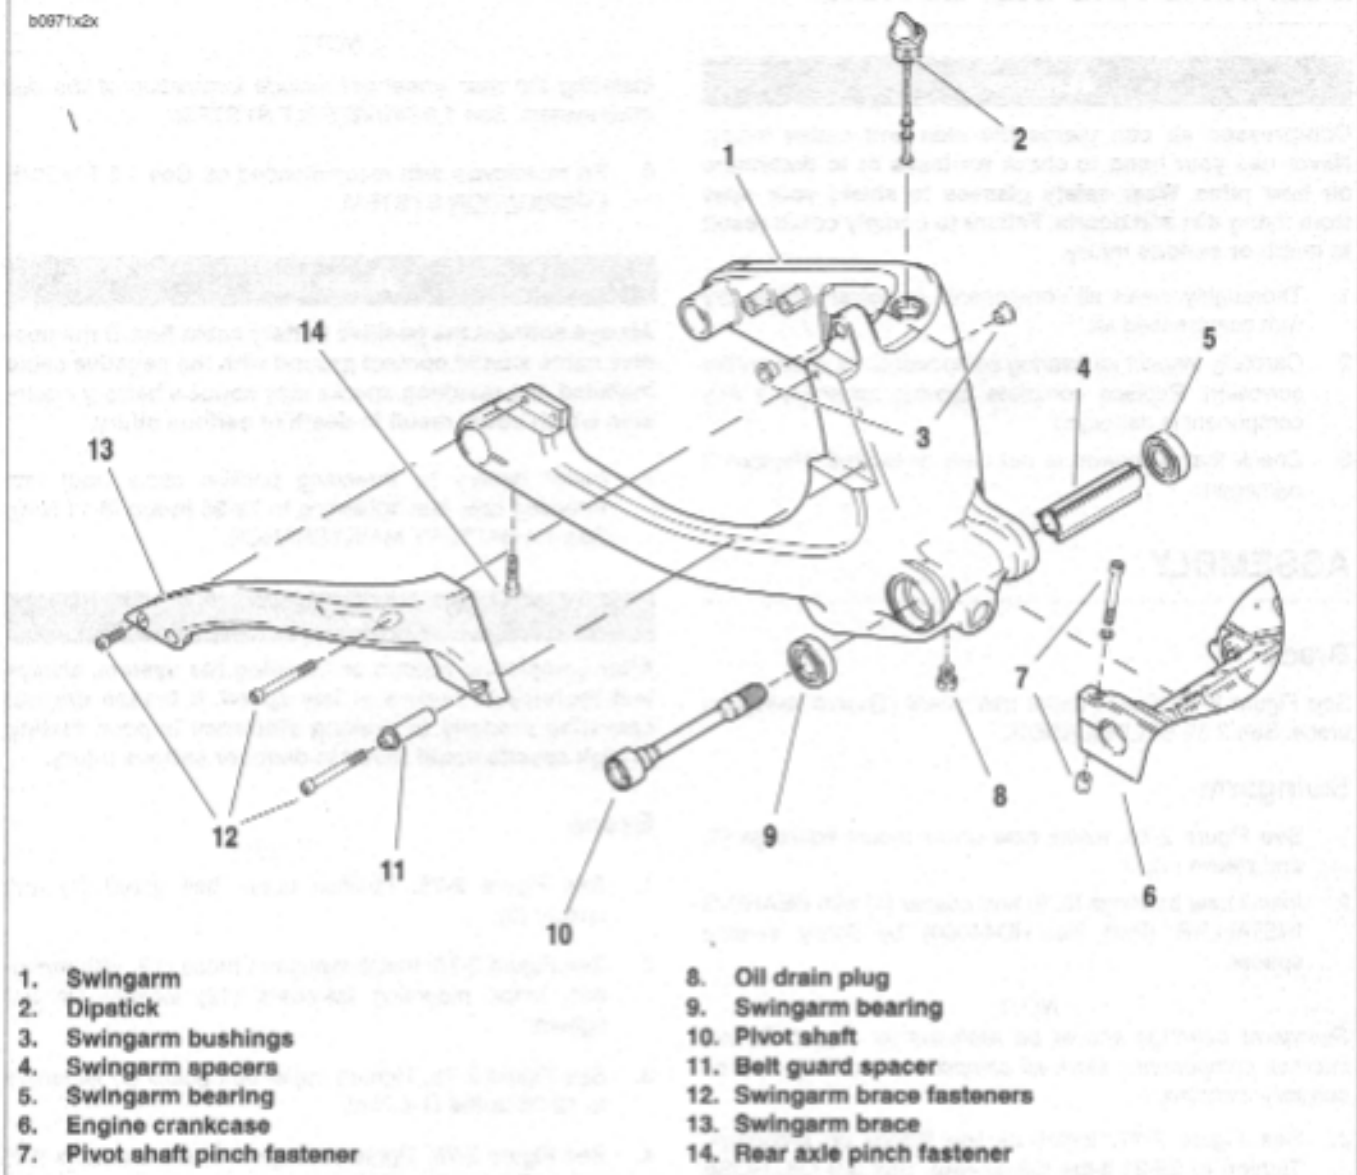

Figure 2-78. Swingarm Assembly
6. See Figure 2-78. Remove swingarm brace mounting fasteners (12) and swingarm brace (13).
2. See Figure 2-78. Remove oil drain plug (9) and drain oil from swingarm. See Draining Oil in 1.5 ENGINE LUBRICATION SYSTEM.
7. See Figure 2-78. Loosen pivot shaft pinch fastener (7).
8. Remove pivot shaft (10) with a special 7/8 in. hex tool located in tool kit.
2. See Figure 2-78. Remove swingarm bearings (5, 9) using slide hammer (SNAP-ON Part No. CJ1275 or equivalent) and 3/4 in. bearing remover and spacer.
3. Remove shock mount bushings (3) and sleeve.
See Figure 2-78. Remove swingarm bearings (5, 9) only if replacement is required. The complete bearing assembly must be replaced as a unit when replacement is necessary.
1. See Figure 2-78. Install **new** shock mount bushings (3) and sleeve (4).
2. Install **new** bearings (5, 9) and spacer (4) with BEARING INSTALLER (Part No. HD44060) by lightly seating spacer.
4. See Figure 2-78. Install drain plug (9). Tighten to 29-31 ft-lbs (39-42 Nm).
1. See Figure 2-78. Align swingarm (1) in pivot of engine crankcase (6).
2. Install pivot shaft (10) with a special 7/8 in. hex tool located in tool kit, ANTI-SIEZE and tighten to 24-26 ft-lbs (32-35 Nm).
3. Tighten pivot shaft pinch fastener (7) to 17-19 ft-lbs (23-26 Nm).
2. See Figure 2-78. Install swingarm brace (13) with swingarm brace mounting fasteners (12) loosely. Do not tighten.
4. See Figure 2-78. Tighten swingarm brace fasteners (12) to 25-27 ft-lbs (34-37 Nm).